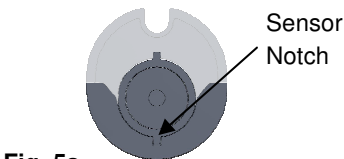

Fig. 5a
- Once the cable connection is secure, assure the sensor notch is aligned. Ref Figure 5a and 5b. The sensor should lie flat in the sensor holder of Fig 5b. Slide the sensor holder assembly up through the aluminum housing. Attach the plastic mating cover making sure the sensor is still seated. The cover and housing must fit together without edge gaps. The unit should now slide down into the aluminum housing